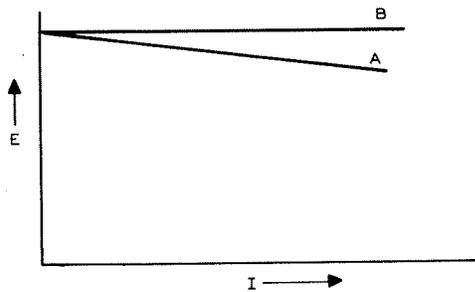

Figure 8
In Figure 8, line A represents the output of a typical unregulated power supply. As the current (I) increases, the voltage (E) decreases. Line B represents a regulated Power Supply where the voltage remains constant with increasing current.